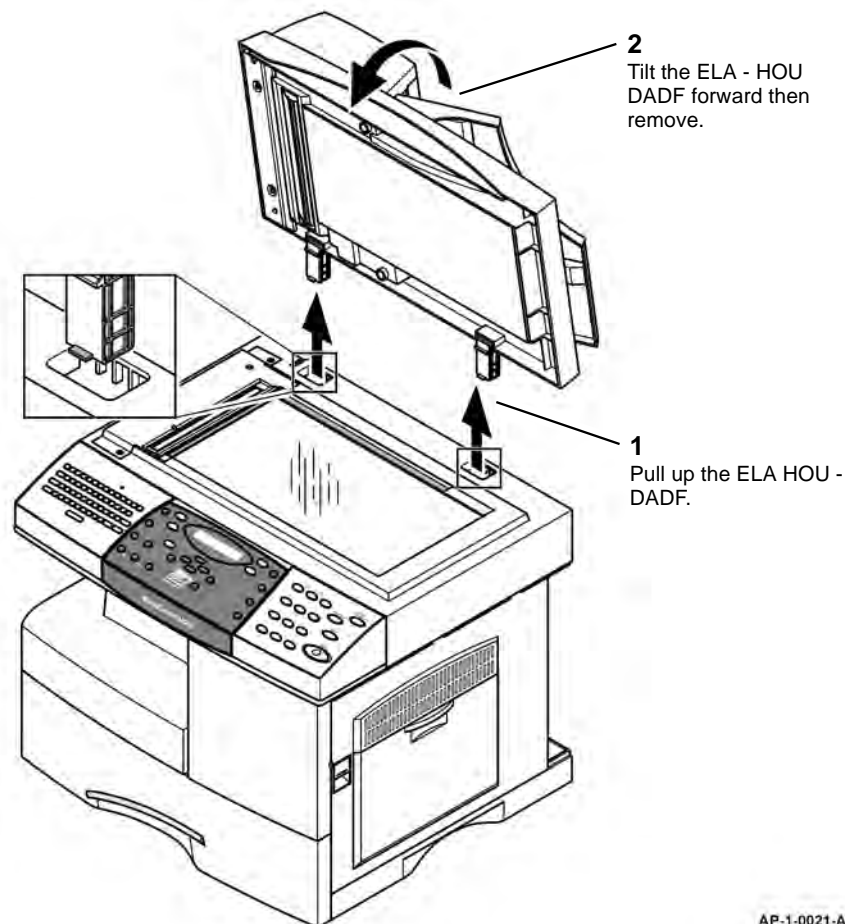

Figure 2 ELA HOU - DADF removal
3. Remove the ELA HOU - DADF, Figure 2. Place the ELA HOU - DADF on a solid flat surface.